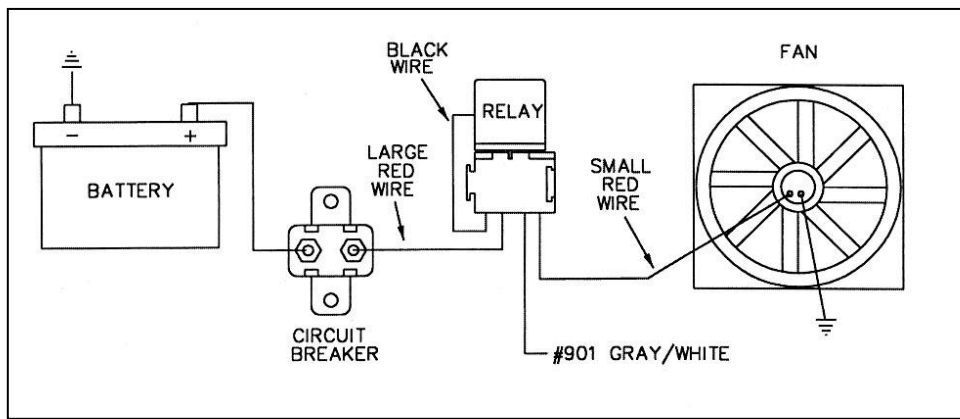

Figure 8-4A Typical Fan Relay Installation (**Painless Part #30101**)
- 8.5.4 Connect HEADLIGHT SECTION A wire #901 (GRY/WHT) to the Electric Fan Relay. This wire is an activation wire for the relay, **NOT A POWER FEED**. The other end of wire #901 is in the ACCESSORY SECTION SWITCHES and should be connected to a electric fan switch in the dash. Connect 906 (GRY/WHT) from ACCESSORY SECTION B+ to the other side of the fan switch. **Figure 8-4A** shows a typical fan relay installation.